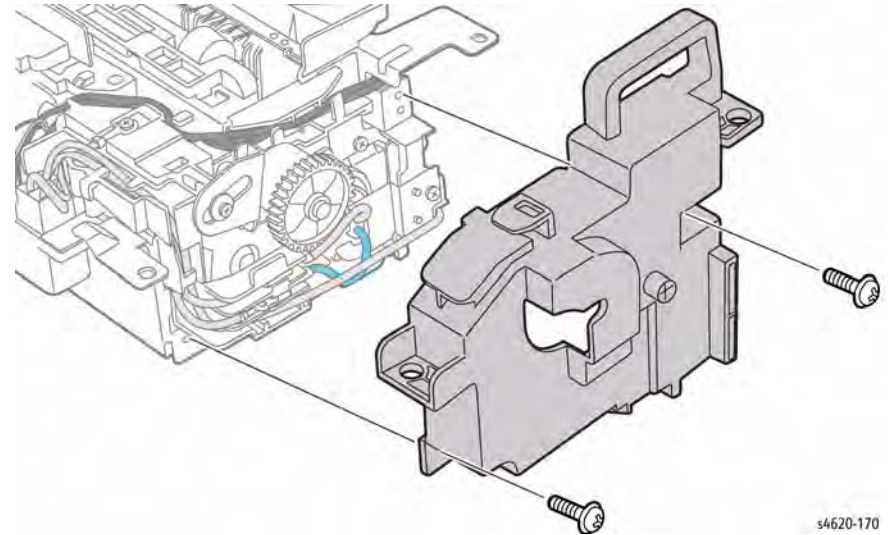

Figure 7 Remove the Fuser left cover
9. Remove 2 screws (silver, metal) that secure the Fuser left cover, Figure 7.